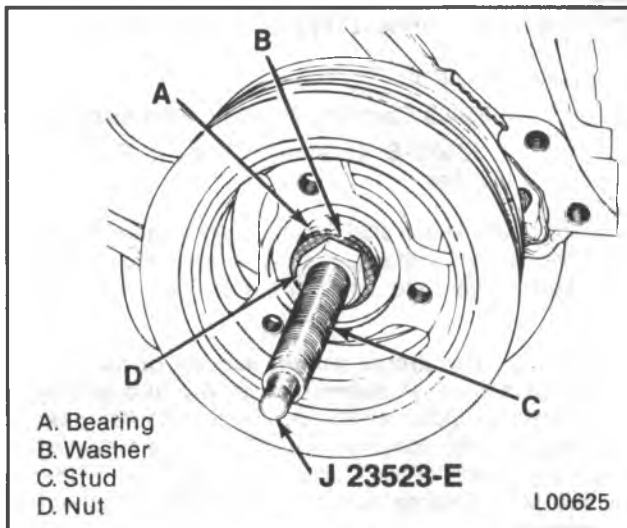

Figure 18 — Installing The Torsional Damper
3. Stud (C) (figure 18) to the crankshaft. Thread the stud fully into the tapped end of the crankshaft.
5. Bearing (A), washer (B), and nut (D) (figure 18).
- Turn nut (D) to pull the torsional damper into place.